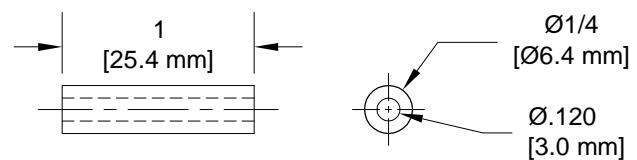

FIGURE 1: E-DRILL BUSHING
Step 1: Locate the steel E-Drill Bushing provided in the kit and shown in Figure 1 below. The drill bushing will be used to protect the hinge bearing from the drill bit when match-drilling the elevator horns to the inboard elevator hinge point. It may be necessary to reduce the diameter of the tube to get it to fit inside the bearing. Mount the tube in a drill press then hold a file to it until the diameter measures 1/4 [6.4 mm].